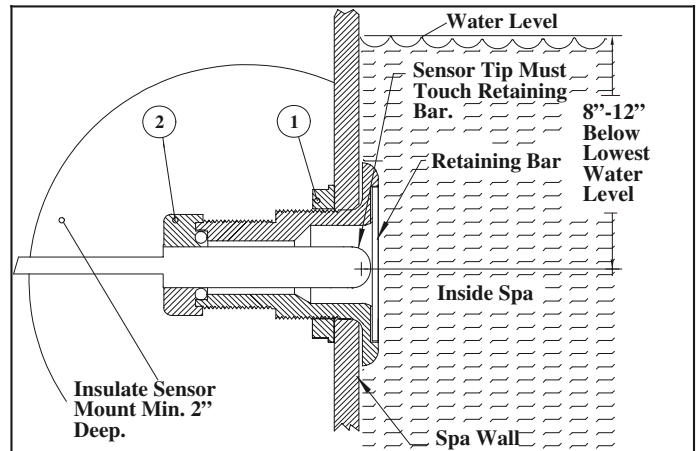

Figure 2: Threaded or non-threaded mounting (spa wall)
- a. Option A: Drill and tap 1/2 NPT in the desired location of the spa wall (preferably somewhere in the filter bucket) 8" below water level. See Figure 2.
- b. Option B: Drill a .825" (53/64") dia. hole through the spa wall (same location as option A). Follow step #2, and then tighten the Heyco locknut (#4) (p/n #8463 or #8464) as shown in Figure 2.